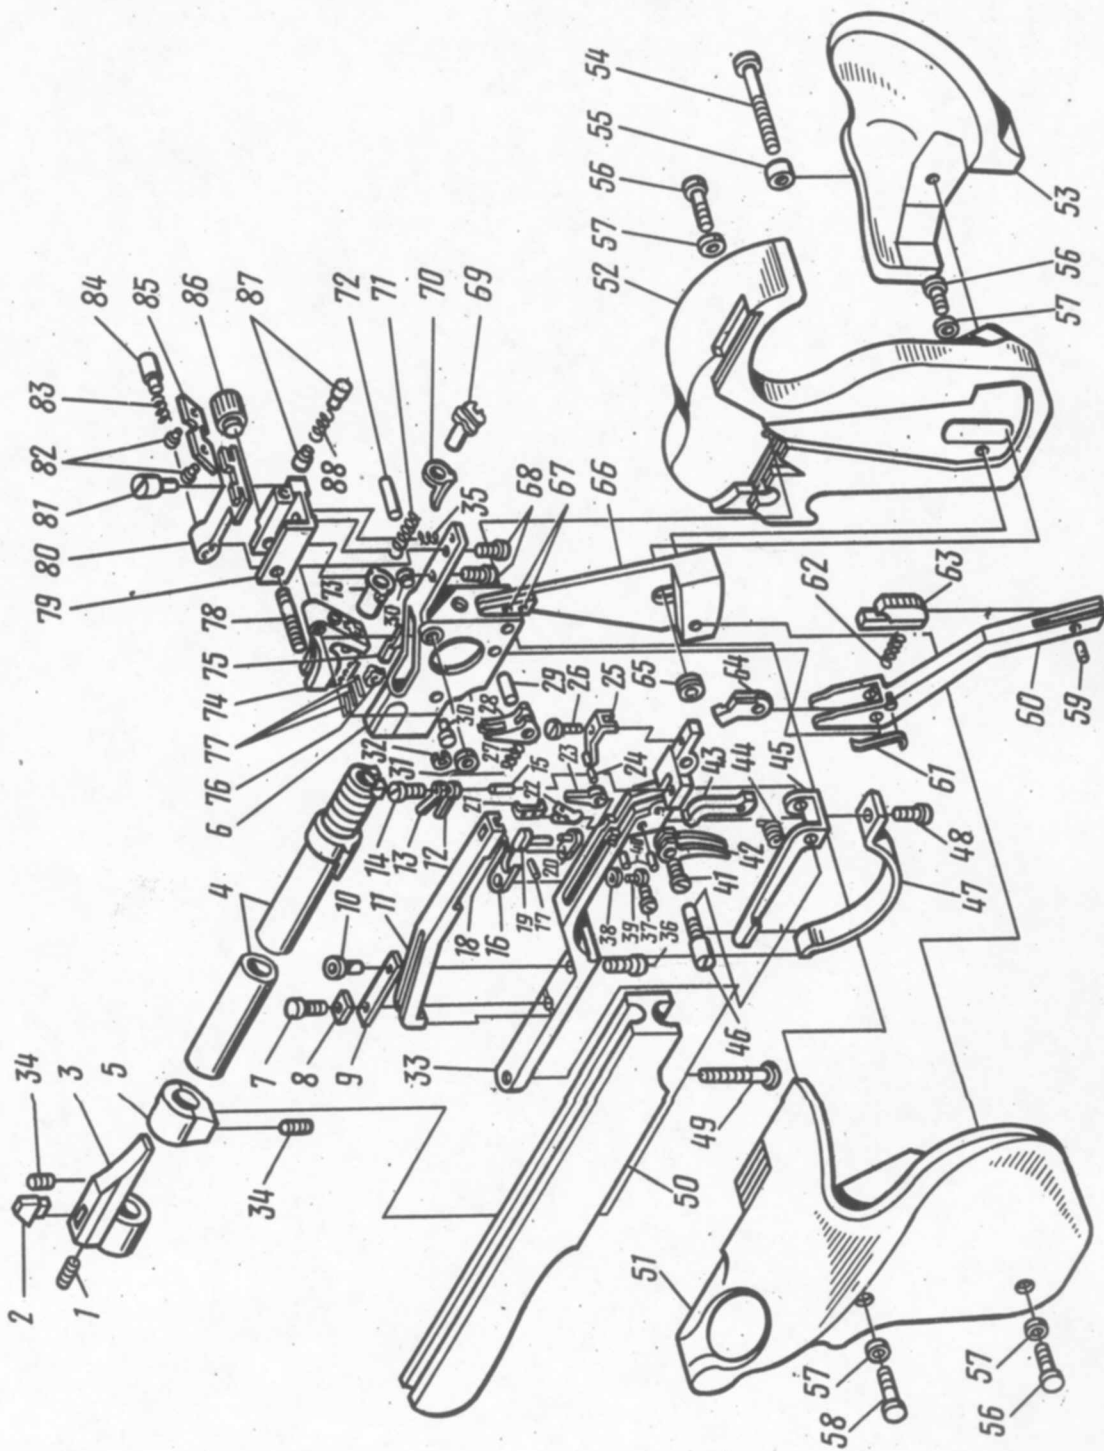

Fig.4
- turn out screw 54 (Fig. 4) and remove the palm rest;
connect the accelerator with the fore-end and fastened it to rest 5 with screw 49 (Fig. 4);
them with screws 36 and 37 (Fig. 4).
◀ Fig. 4. Target Pistol T03-35M: